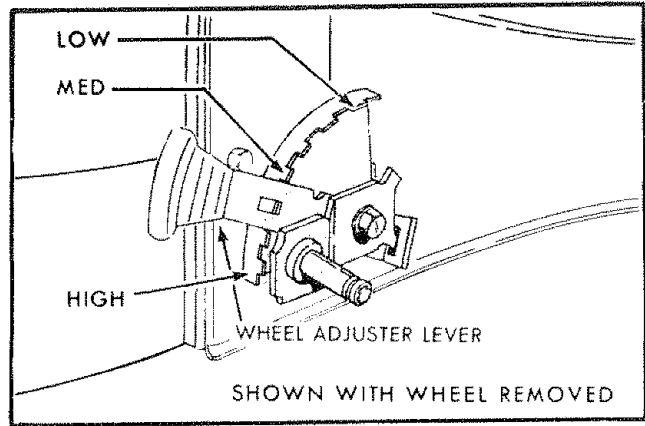
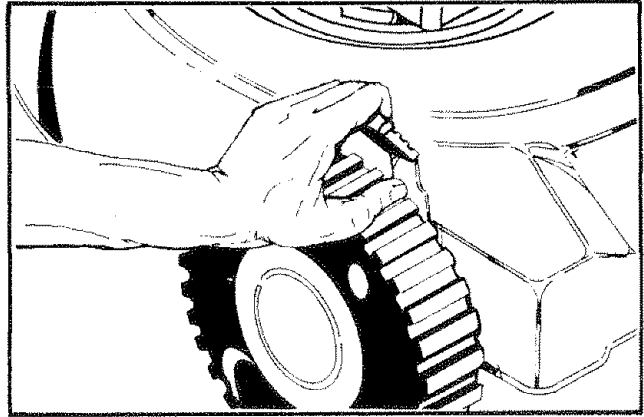

FIG. 6
FIG. 7
1. The wheel adjusters give you five (5) different cutting positions. Medium cut is the best for most lawns.
2. High cut is approximately 3 3/8", medium cut is approximately 2 5/8" and low cut is approximately 1 1/8". There are two (2) other positions. Pick the position which suits you for best cutting (See Fig. 6).
3. The wheel adjusters on your lawn mower can be easily adjusted as shown in Fig. 7. To change the height of cut, squeeze adjuster lever toward the wheel, moving up or down to selected height. Be sure all wheels are in the same setting (See Fig. 6).